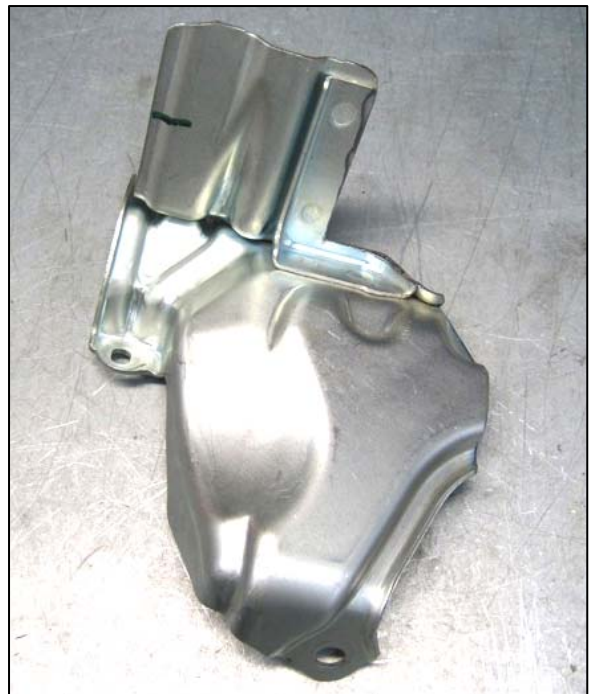

Fig. 47
50. The trimmed heat shield is shown in figure 47. Once final trimming is complete, install shield and tighten the bolts to 6-8 lb-ft (72-106 lb-in / 8-12 N-m) Heat shield is shown installed in figure 48, outlined in yellow (3 bolts, 10mm socket).